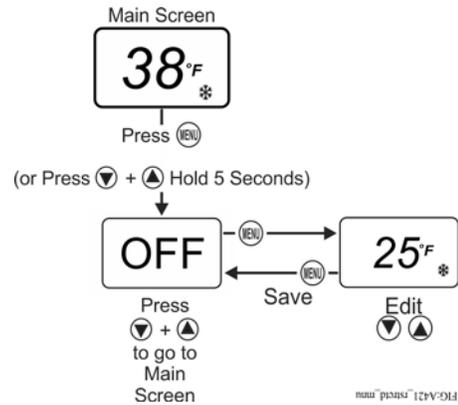

Figure 14: Adjusting Temperature in the Restricted Menu
- The basic and advanced menus are not available. Only the restricted adjustment mode menu is available and only the **OFF** value can be adjusted. See Figure 14.
1. In the Main Screen, press **MENU** to go to the restricted adjustment mode menu and display the **OFF** parameter code screen (Figure 14).